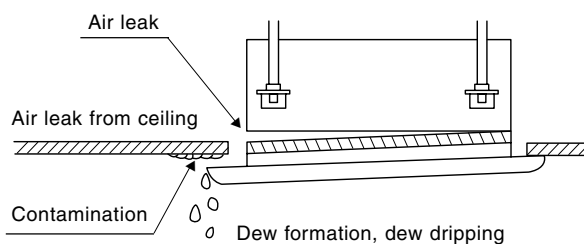

Fig. 5
- Improper screwing of the screws may cause the troubles shown in Fig. 5. Screw properly.